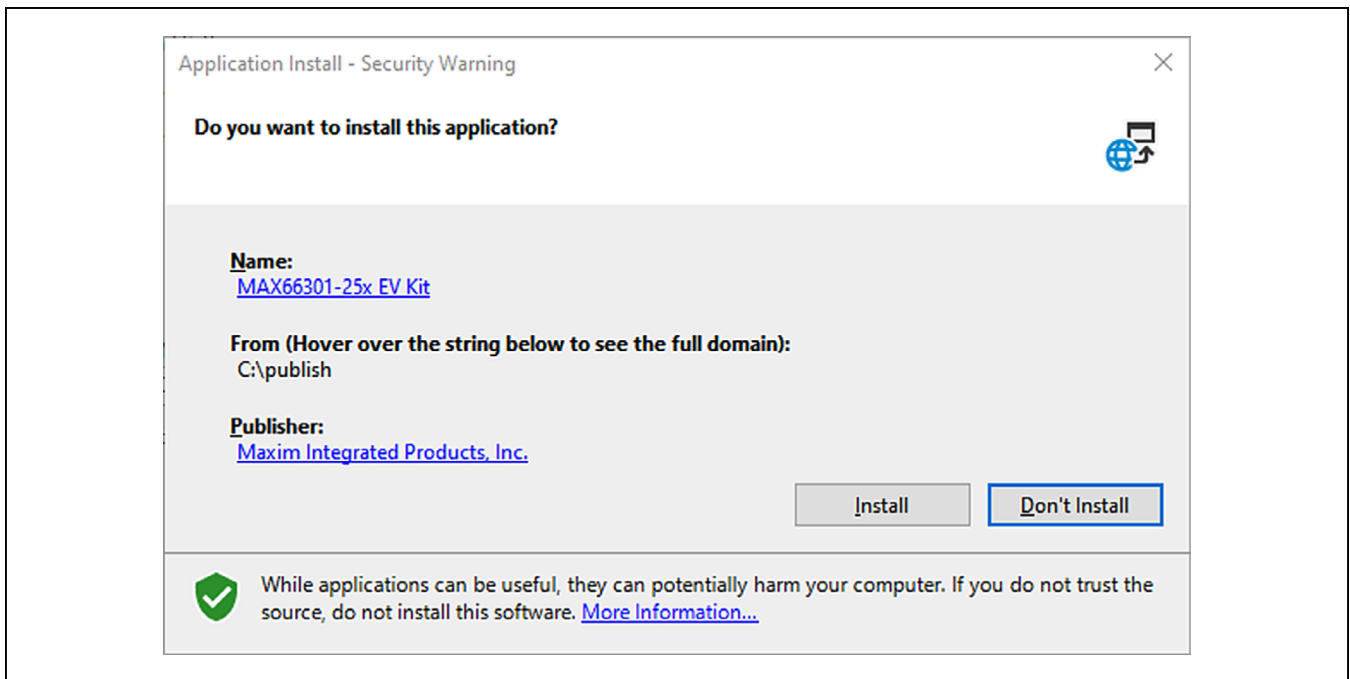

Figure 3. Application Install–Security Warning
- 6) Now, double-click the **Install** button as shown in Figure 3.